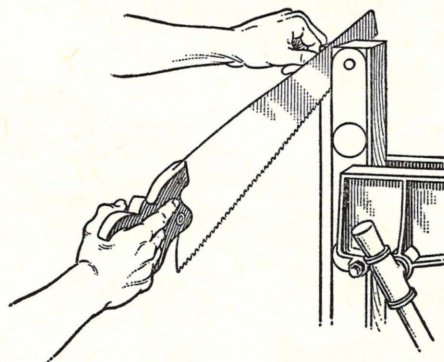

Fig. 52—Sawing out the handle
5. Saw the clothes stick to shape. It is a good plan to saw about $\frac{1}{8}$ " outside the line, and use a spoke shave and chisel to remove the wood remaining. Be careful not to cut the guide lines away. (See Figs. 52, 53 and 54.)